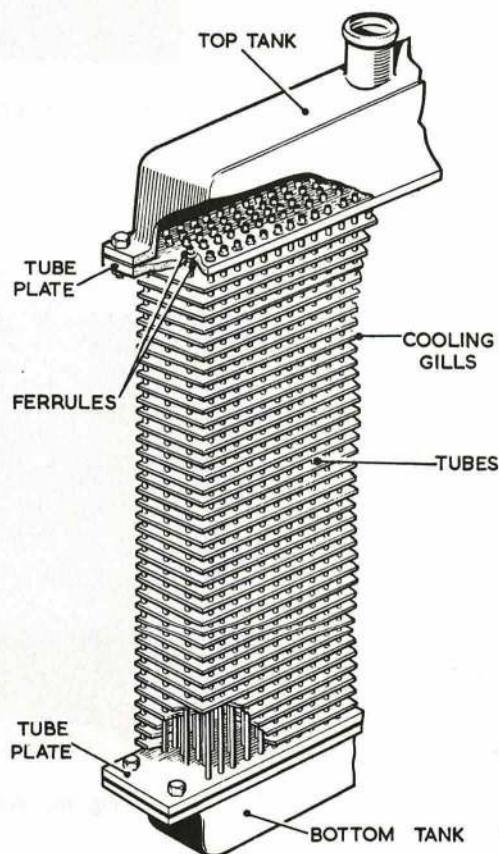

Fig. 14. TUBE AND FIN-GILL RADIATOR
24. **Tube and Fin-Gill Radiator.** The tube and fin-gill radiator (Fig. 14) consists of a number of tubes passing through flat plate cooling gills. The ends of the tubes are located in holes in two plates which form